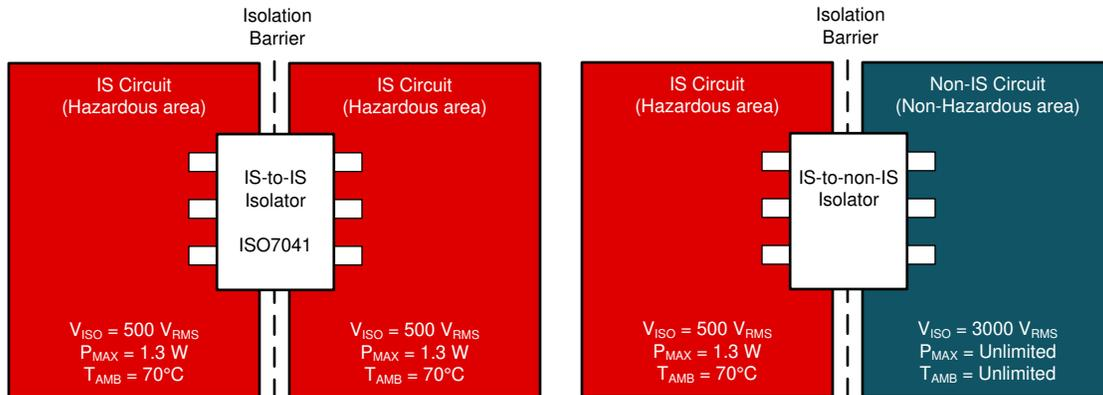

Figure 5-1. Digital Isolator Between Separate Intrinsically Safe (IS) Circuits
From the explosive atmosphere standards perspective, the universe is divided into two areas: hazardous and non-hazardous; see Figure 5-1. The equipment used in the hazardous areas is called intrinsically safe (IS) equipment, whereas the equipment used in the non-hazardous area is called non-intrinsically safe (non-IS) equipment. In the hazardous-area, the presence of gas and dust create an explosive environment and therefore the energy level (voltage and current) and storage elements (capacitance and inductance) should be limited to avoid spark or excessive heating. Power and ambient temperature levels should also be restricted in the hazardous area. In the non-hazardous area, there are no dangerous conditions in the environment and therefore there is no cause or fear of explosion and thus no intrinsic safety related constraints on the power and ambient temperature levels. In the hazardous area, since the voltage levels are only allowed to go up so high, the isolation withstand voltage is only tested at 500 V_{RMS} whereas the voltage in the non-IS-area can go much higher and the corresponding isolation withstand voltage can be 3000 V_{RMS} or higher.